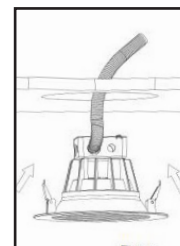

FIG. 4
5. Press the top portion of the Remodel Clips against the side of the Housing Assembly. (FIG. 4)